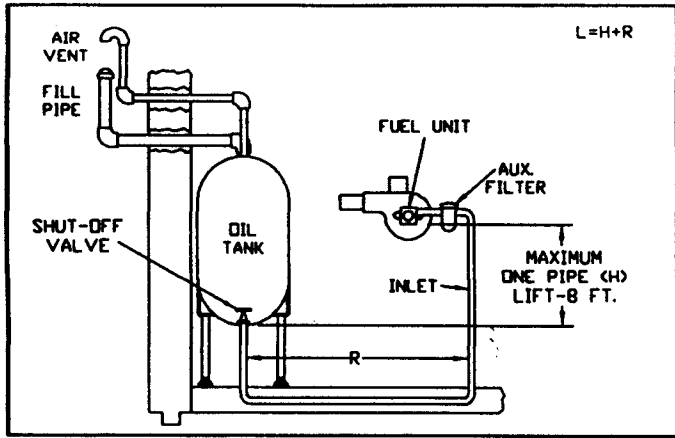

FIGURE 4
## ONE-PIPE SYSTEM • FIGURE 4
**DO NOT INSTALL BY-PASS PLUG!** Connect inlet line to pump inlet. Start burner. Arrange primary burner control for continuous operation during purging. Open easy flow bleed valve 1 turn CCW. Bleed unit until all air bubbles disappear— **HURRIED BLEEDING WILL IMPAIR EFFICIENT OPERATION OF UNIT.** Tighten Easy Flow Bleed Valve securely. (Figure 4)
The maximum allowable lift is 8 ft.—See Figure 4.